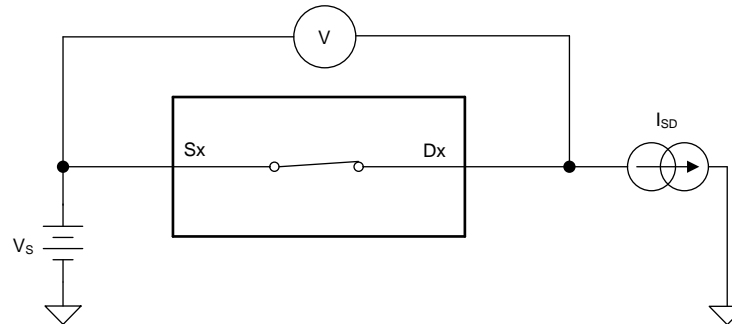

图 27. On-Resistance Measurement Setup
The on-resistance of a device is the ohmic resistance between the source (Sx) and drain (Dx) pins of the device. The on-resistance varies with input voltage and supply voltage. The symbol R_{ON} is used to denote on-resistance. The measurement setup used to measure R_{ON} is shown in 图 27. Voltage (V) and current (I_{DS}) are measured using this setup, and R_{ON} is computed as shown below with $R_{ON} = V / I_{SD}$: